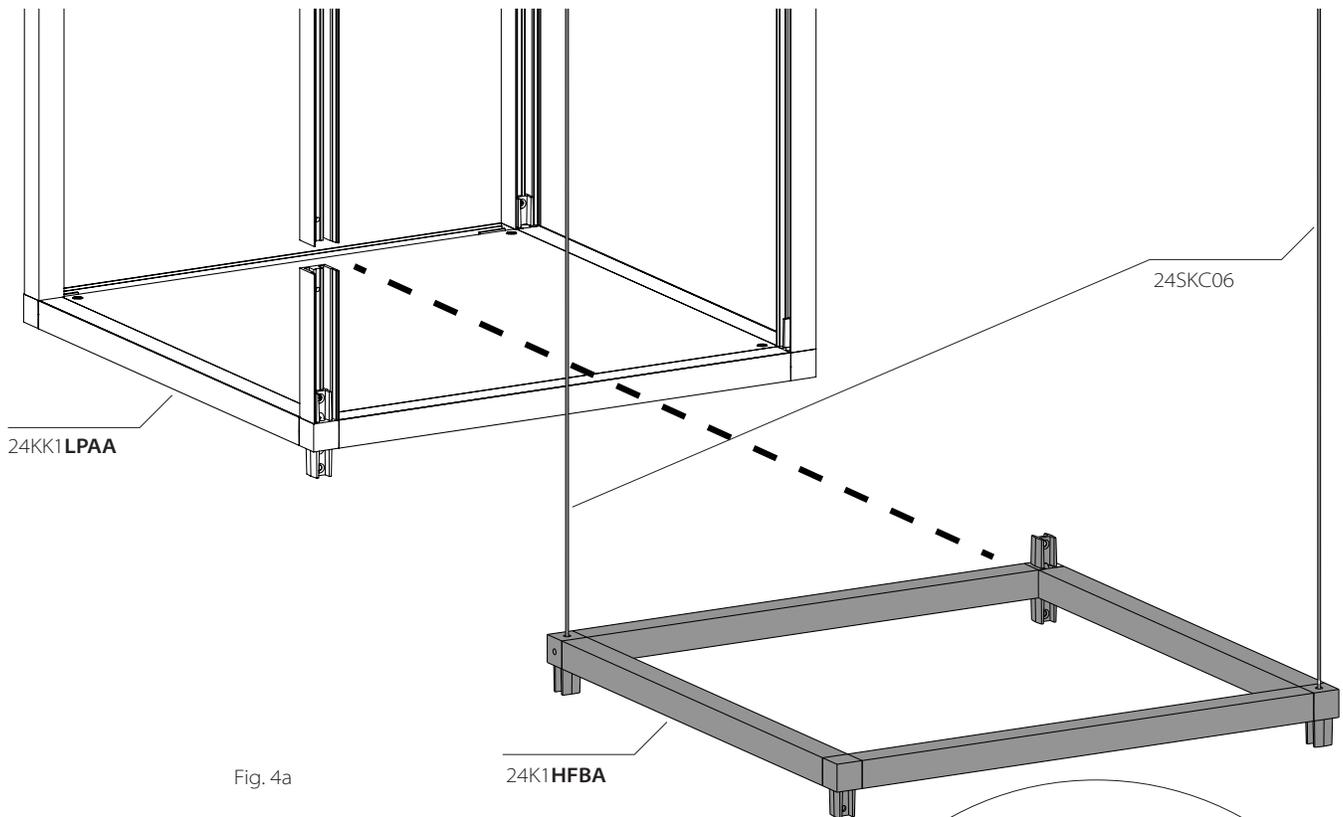

Fig. 4a
- 13a. Install 24KK1HFBA to 24KK1LPAA assembly as shown in Fig. 4a. Install 24SKC06 to hanging corners and tighten set screw with included Slotted Screwdriver.